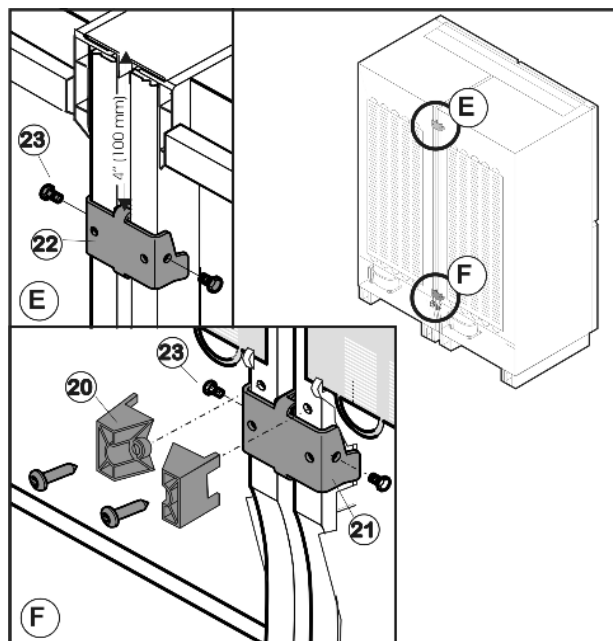

Fig. 53
- Remove the spacers Fig. 53 (20) from the lower reverse side of the appliances.
- Position lower connecting piece Fig. 53 (21) such that the screw holes are above each other and screw Fig. 53 (23) on from the side.
- Position upper connecting piece Fig. 53 (22) and screw Fig. 53 (23) on from the side.
- Tighten the screws Fig. 53 (23).